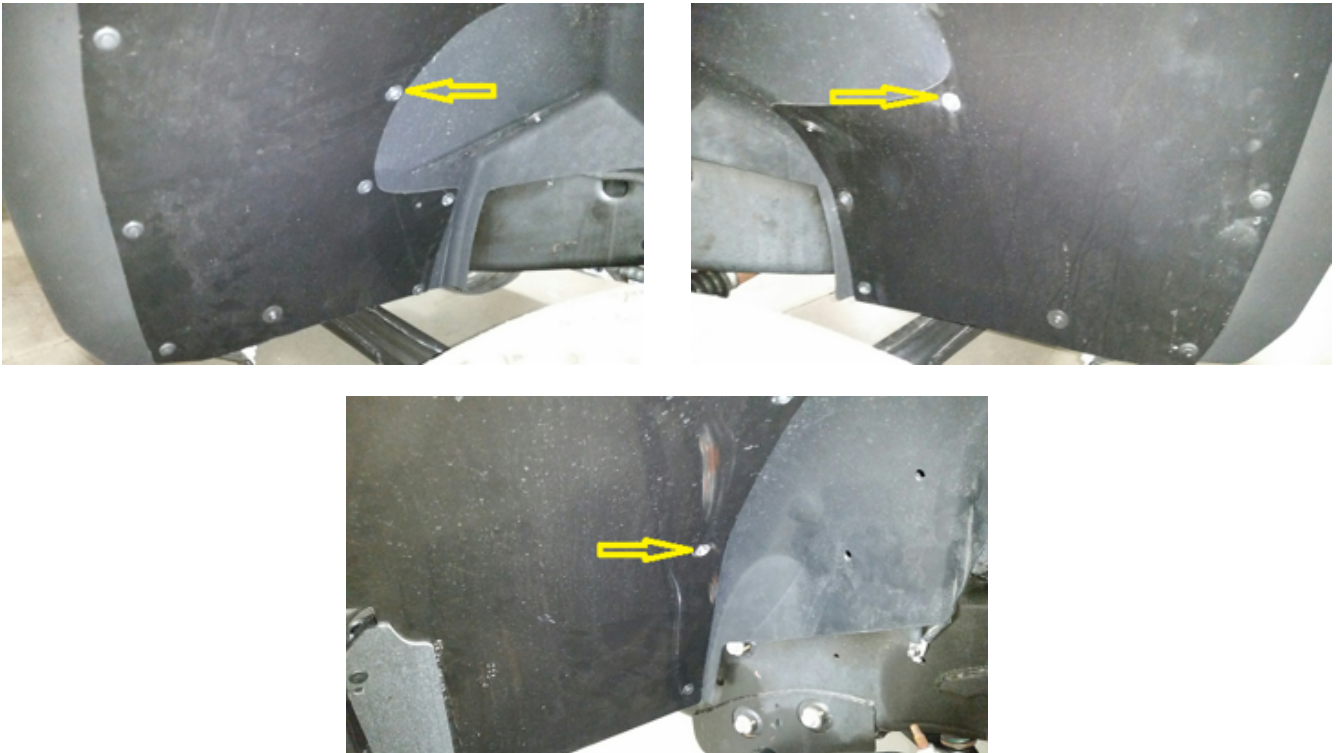

Figure 46 Left: Passenger side, Right: Driver side, Bottom: Driver side
- K. Install new wheel liners using plastic rivets and factory hardware. Three of the factory liner screws will need to be trimmed down to 3/4" and use in locations shown (fig. 46).